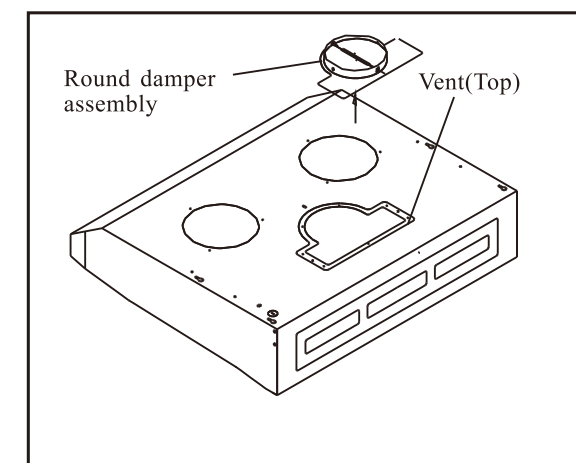

Fig.2 Take out the round damper assembly
- (1)For round vent (the standard type), please connect the 6" exhaust duct to the round vent off the machine.
- (2)For rectangular vent on the top, please follow the procedures below:
- (a)Take out the round damper assembly from the top.(Fig2)